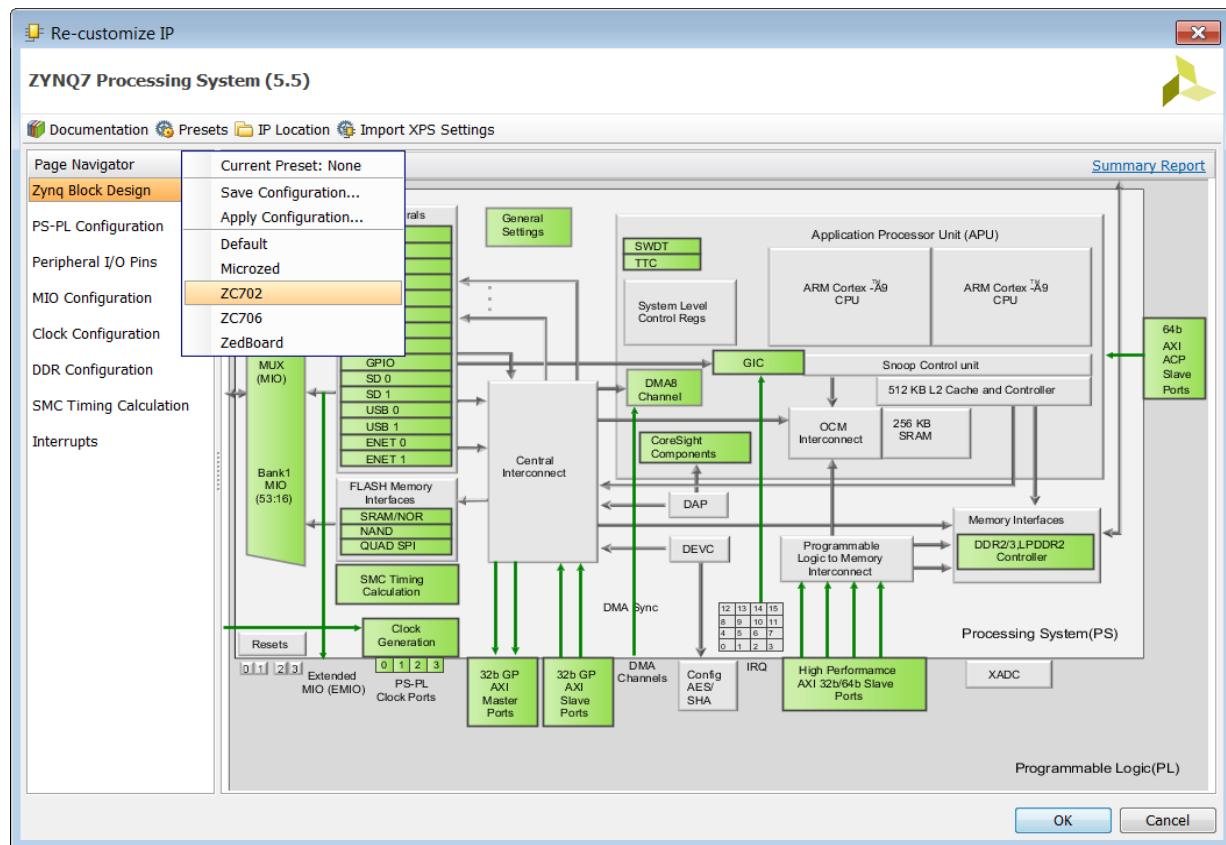

Figure 10-15: Configure the Zynq Processor
- a. Click the **Presets** icon and select **ZC702** (Figure 10-15).